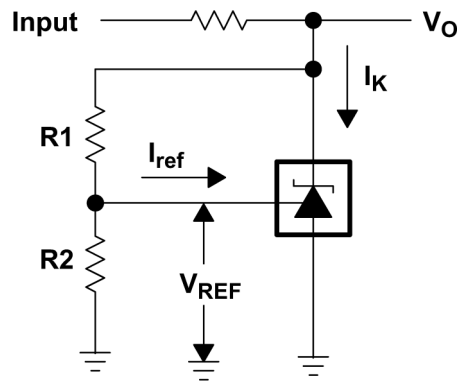

图 6-2. Test Circuit for $v_{KA} > V_{REF}$, $V_O = V_{KA} = V_{REF} \times (1 + R1/R2) + I_{ref} \times R1$
(3) The dynamic impedance is defined as $|z_{ka}| = \frac{\Delta V_{KA}}{\Delta I_K}$. When the device is operating with two external resistors (see 图 6-2), the total
(3) Full temperature ranges are -40°C to 125°C for TLV431Q, -40°C to 85°C for TLV431I, and 0°C to 70°C for TLV431C.
(4) dynamic impedance is defined as $|z_{ka}| = \frac{\Delta V_{K_A}}{\Delta I_K}$. When the device is operating with two external resistors (see 图 6-2), the total